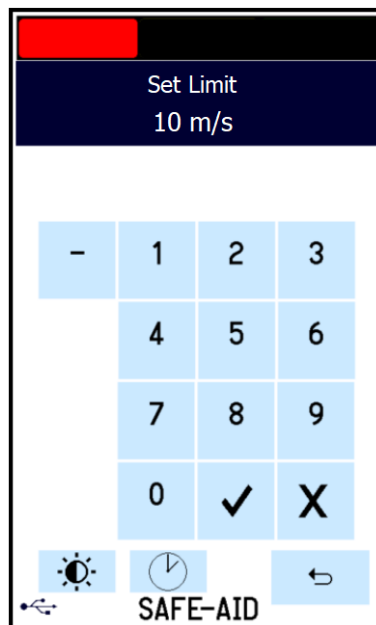

Figure 24
2. Enter the password [- - -] followed by the  button the Set Limit screen will be displayed (figure 24).